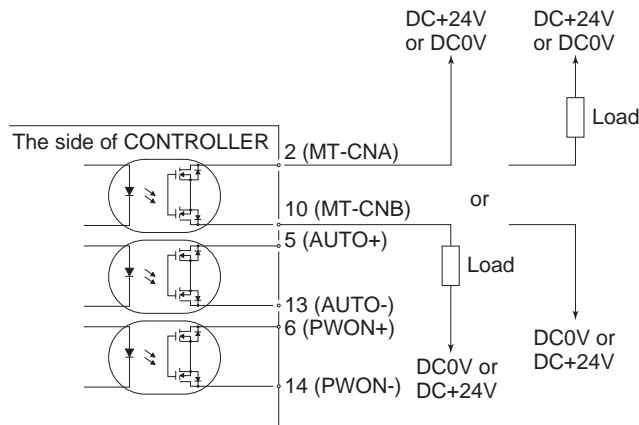

Fig. 39
- Applied Voltage (V) \leq DC+30V
Use an external power source for output circuits. It is recommended to use a separate power supply Input / Output Connector B ④ . Please refer to Fig. 39 for connections.